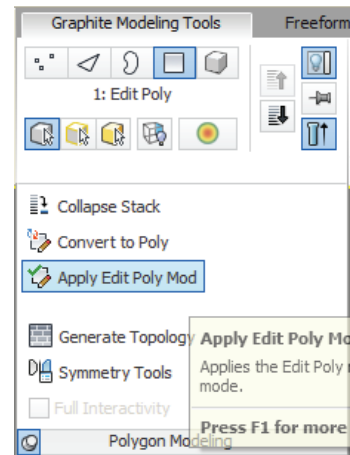

Figure 3–25
4. Select the polygon at the top of the cylinder, as shown in Figure 3–26.